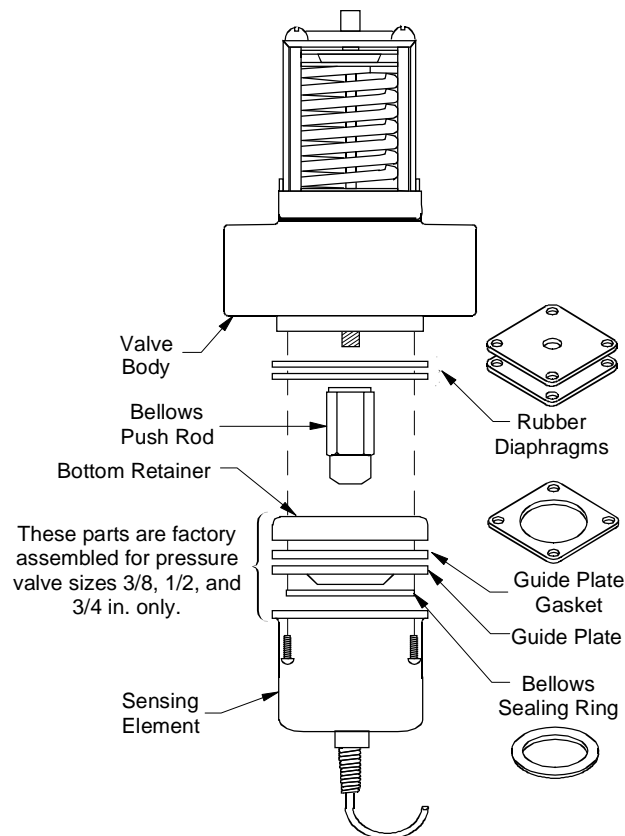

Figure 5: Guide Plate Gasket and Bellows Sealing Ring Identification
9. Replace the diaphragms between the sensing element and valve body (Figure 5). Use two diaphragms on 3/8 in., 1/2 in., and 3/4 in. valves and three diaphragms on 1 in. and larger valves.
10. On 1 in. and larger pressure valves and all temperature valves, replace the guide plate gasket and bellows sealing ring (Figure 5).